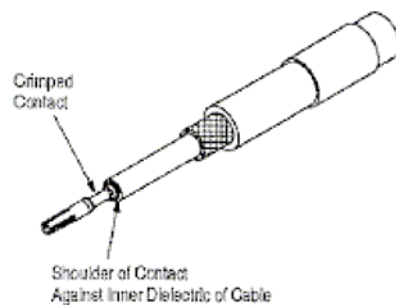

Figure 3
2. Insert center conductor into contact until the shoulder of the contact is against the inner dielectric of the cable. Refer to Figure 3.
3. Crimp center contact using the recommended crimping tool. Refer to the instruction sheet packaged with the tool for detailed crimping instructions. See Figure 3.